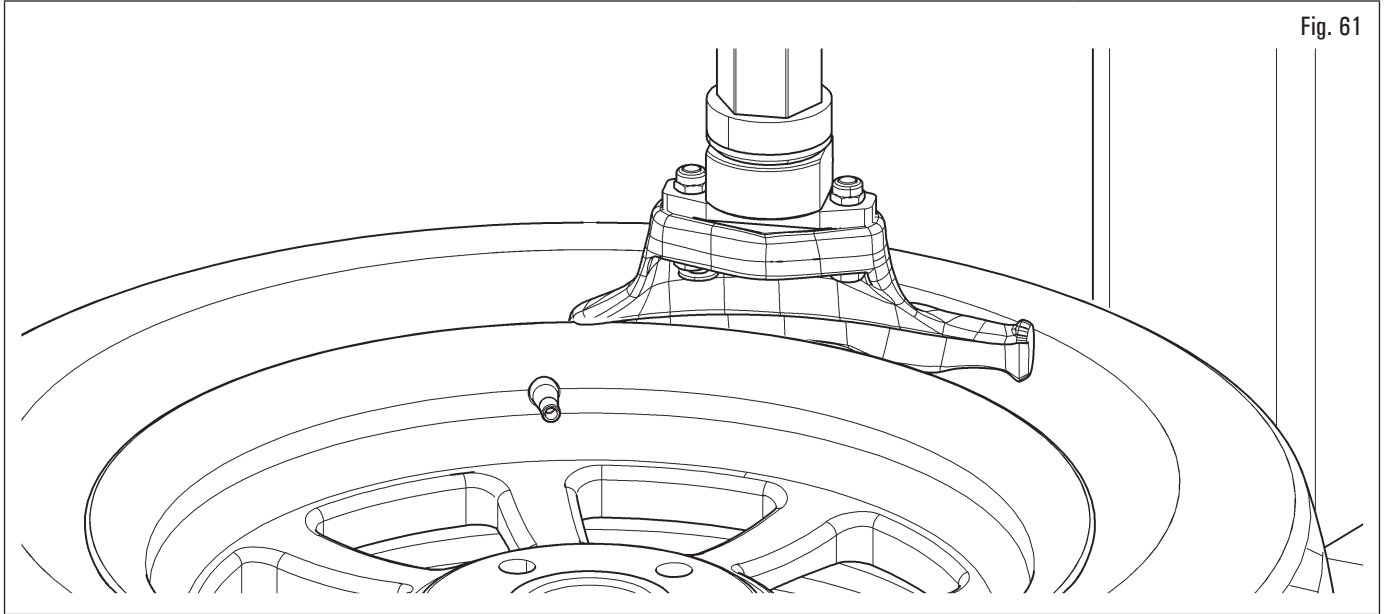

Fig. 61
2. rotate the chuck to bring the valve immediately to the left of the toolhead to "11 o'clock" position (Fig. 61);